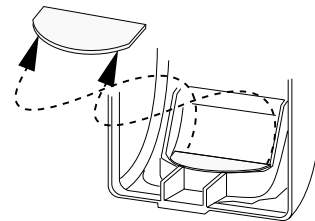

Figure 2. Cardboard Undercrawl Mask Location
- ☐ The cardboard undercrawl mask installed at the factory (see Figure 2) blocks coverage within 5 feet of the sensor.